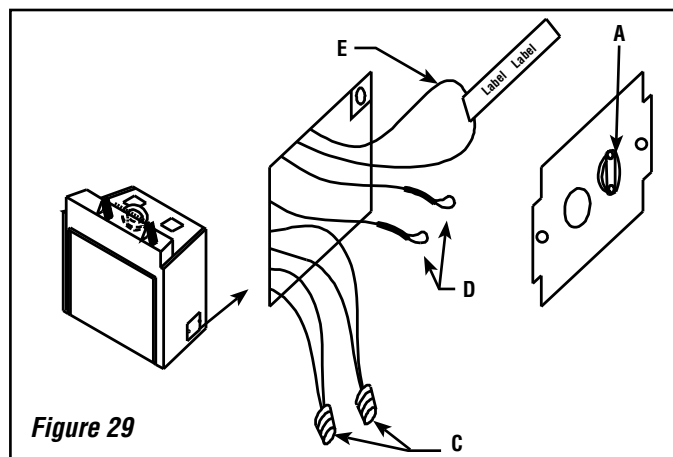

Figure 29
- \* The electrical box is located at the right rear of the fireplace (see **Figures 29 and 30**). Remove the cover, loosen the wire clamp A and feed the household supply line through the clamp and retighten clamp.
If desired, a wall-mounted blower speed control can be installed. The breaker supplying electricity to the fireplace must be turned off at the electrical panel before any connections are made. The loop of wire with the label attached (E in **Figure 29**) may be cut and the wire leads from the wall-mounted speed control connected to each end of the cut wire.
The remaining red and white wires with capped ends (wires D in **Figure 29**) are for the optional Forced Air Duct System. See the instructions provided with the system for installation details.